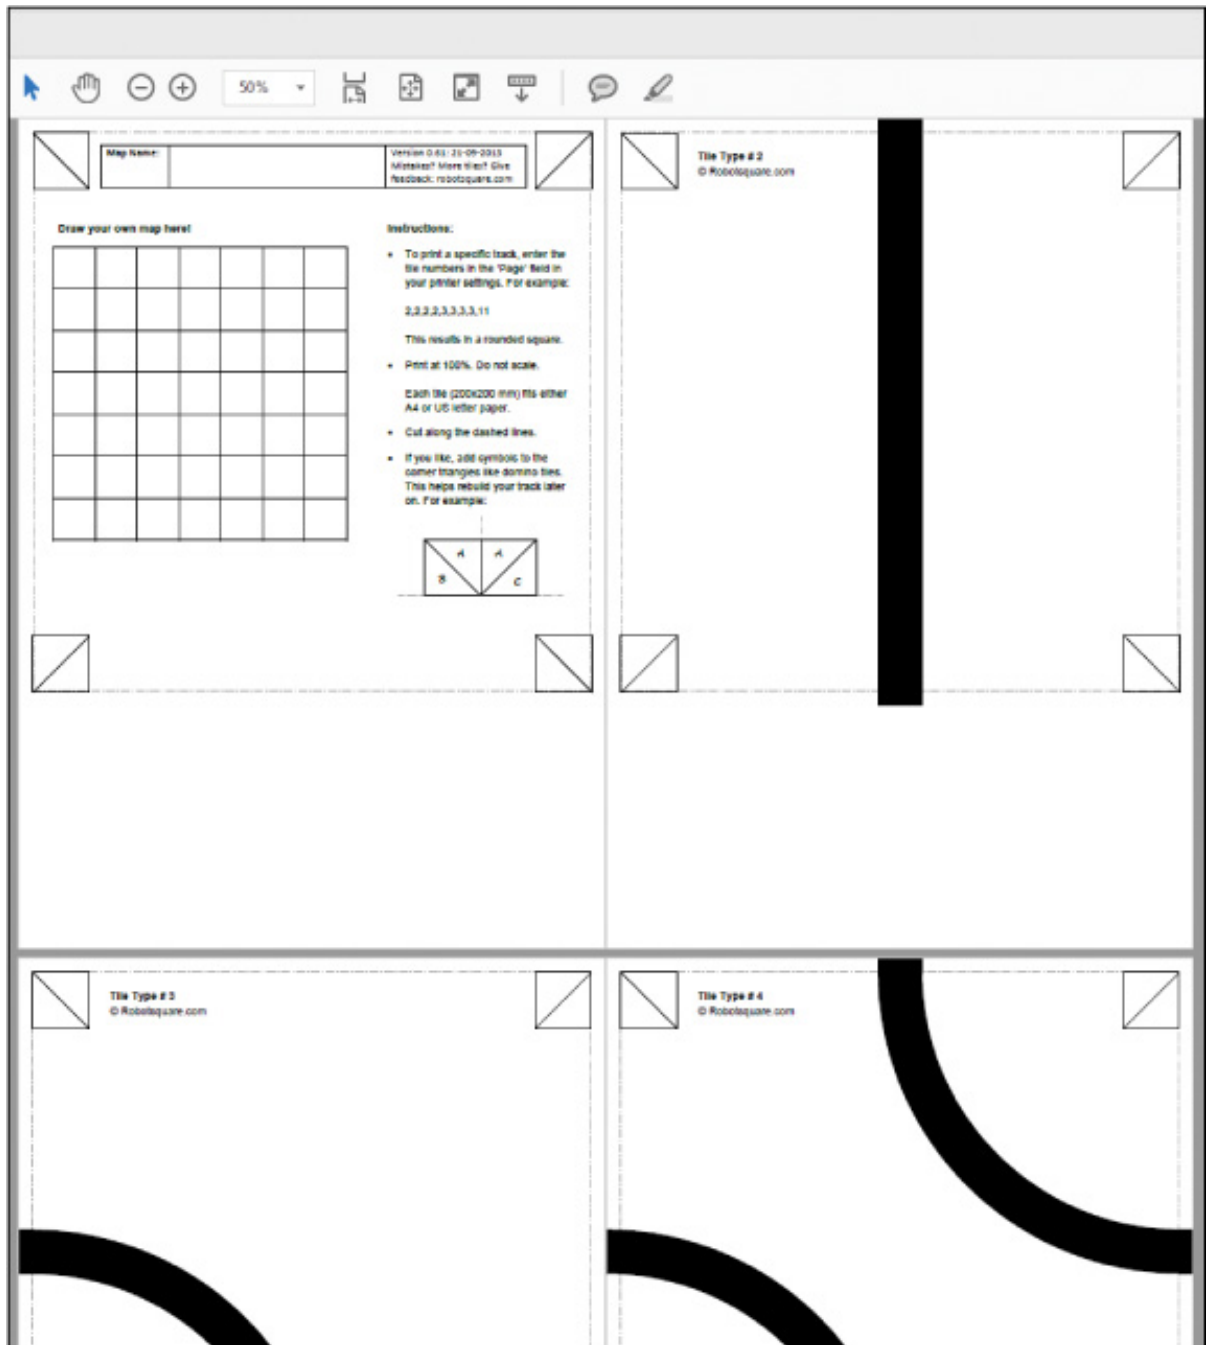

FIGURE 7-2 The *track_generator.pdf* document
2. Navigate to the folder where the software is stored, and then open the PDF named *track_generator.pdf*. This is a 34-page document that has a variety of 20×20 cm tiles with different lines on them (see Figure 7-2).